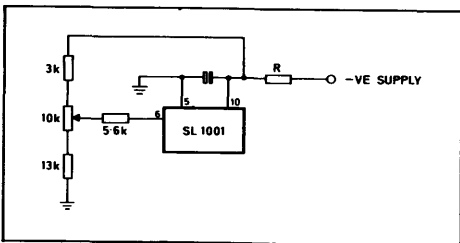

Fig.5 Carrier suppression adjustment
5. Carrier suppression may be improved by using the circuit of Fig.5, and adjusting for minimum leakage.